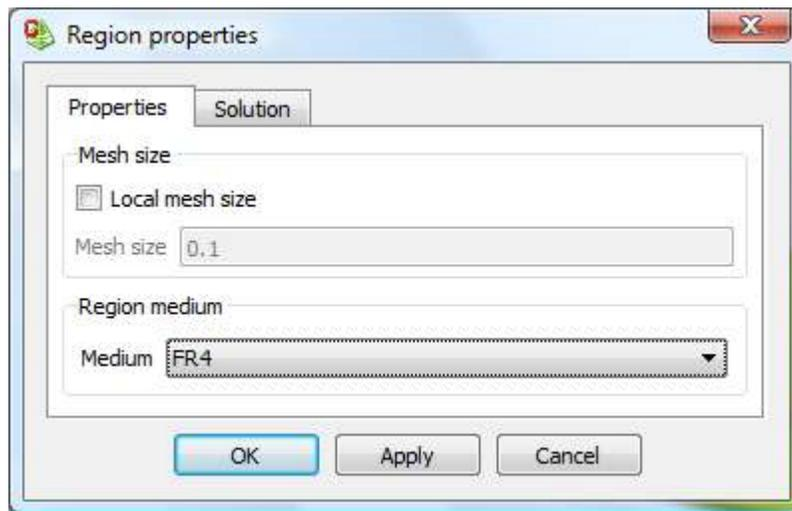

Figure 9.
10. To assign the dielectric material to the FR4 volume, you need to click on the FR4 geometry, and below the left side bar list, a new list shows up. Click on “Regions”, and then right click on the only region that shows up. Choose “Properties”, and choose “Medium” to be “FR4”. If you have defined more than one dielectric material, you need to choose which one you want to use for this region. After you choose the right material, click “Apply”. This is shown in Figure 9.